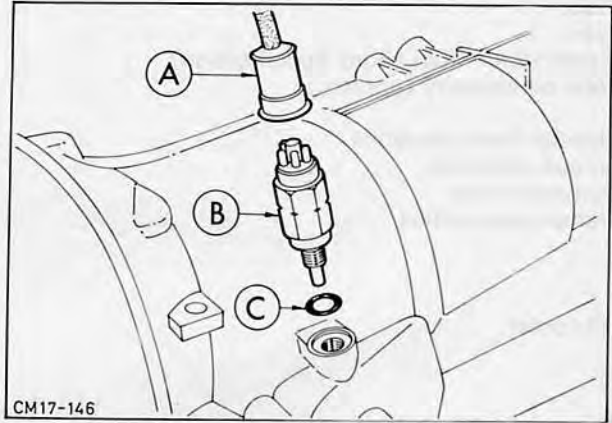

Fig. 148. Starter inhibitor switch
2. Unscrew starter inhibitor switch and remove O-ring, Fig. 148.